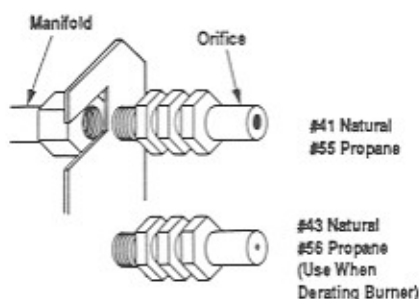

Figure 30
Step 2. Remove the decorative mesh screen panels by removing the two (2) screen rod retention screws located top center of the fireplace opening (Figure 30). Save the rods, screws and screen panels for re-installation later.